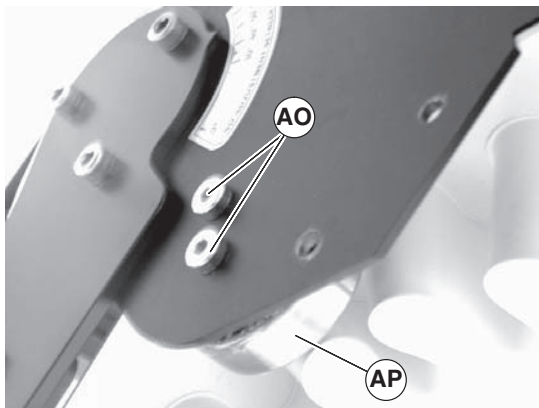

Figure 90
2. Remove screws (Figure 90, item AO) and remove worn roller bearing (AP).
3. Replace worn bearing with new bearing, use screws (Figure 90, item AO) to attach new bearing.